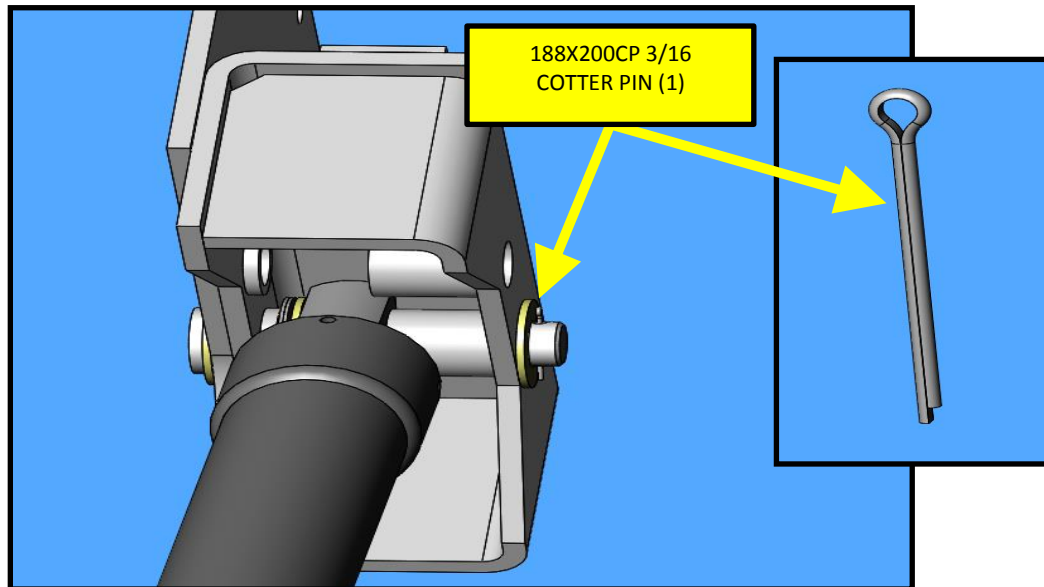

FIG. 21-1
34. After the new 0965-EE1-003 upper pin is installed, insert (1) 188X3200CP 3/16 x 2.0" cotter pin as indicated, then bend legs to prevent the cotter pin from falling out. Refer to FIG. 21-1.